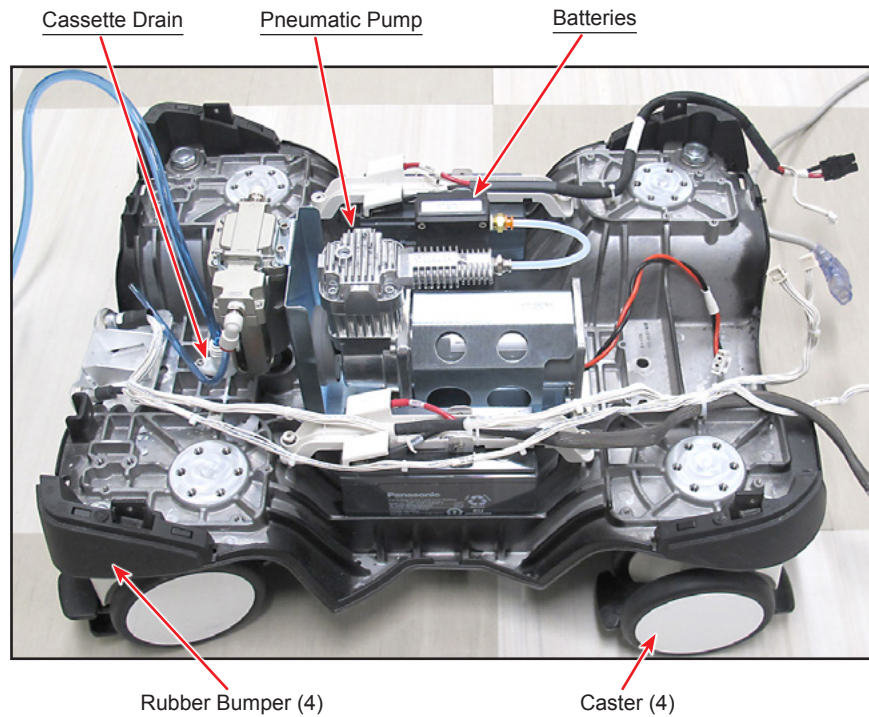

Figure 3-58 Reference Photo of Base
45.19 Remove the following items from the old base and install them to the new base (refer Table 3-1). Figure 3-58 is provided as reference.